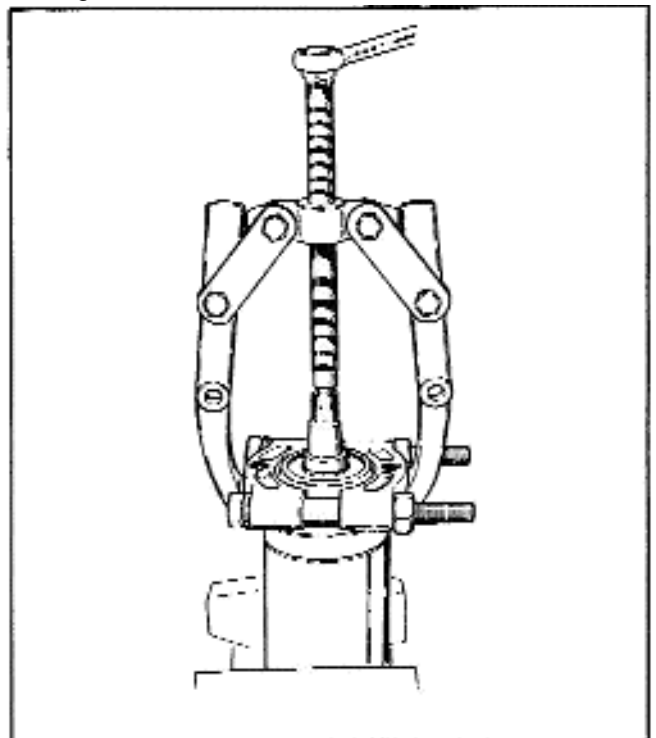

Figure 7 - Removing Armature Bearings
4. To separate armature (11) from drive end cover (12), remove nut (13), lockwasher (14), pulley (15), shaft key (16), washer (17), bearing retainer screws (18) and spacer (20).
5. To separate commutator bearing (19) or drive end bearing (19A) and spacers (20) from armature (11), use claw puller tool and wedge attachment tool. See Figure 7.